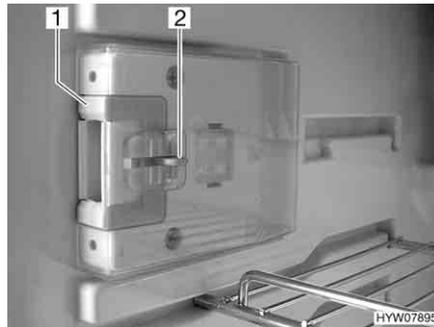
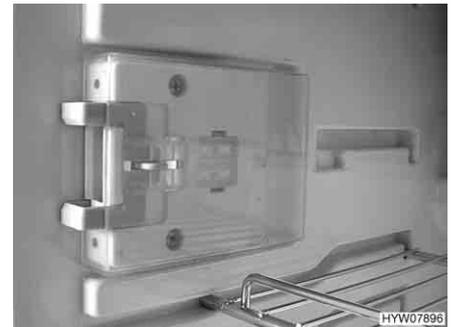

Fig. 197 Locking device in normal position
Fig. 198 Locking device in ventilation position
- Press down the unlocking device (Fig. 197,2).
- Push locking device (Fig. 197,1) forwards (Fig. 198).